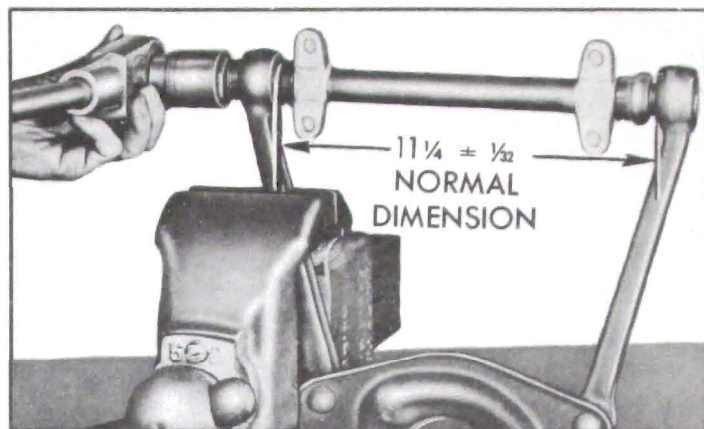

Figure 7-15—Installing First Bushing
3. Check the distance between inner ends of control arm. The normal dimension is  $11\frac{1}{4}$ " plus or minus  $\frac{1}{32}$ ", from inside to inside. See figure 7-15.
7. Start first bushing on shaft and into control arm at the same time. Turn bushing until head is tight against arm and tighten to a minimum of 150 ft. lbs. torque. See figure 7-15.